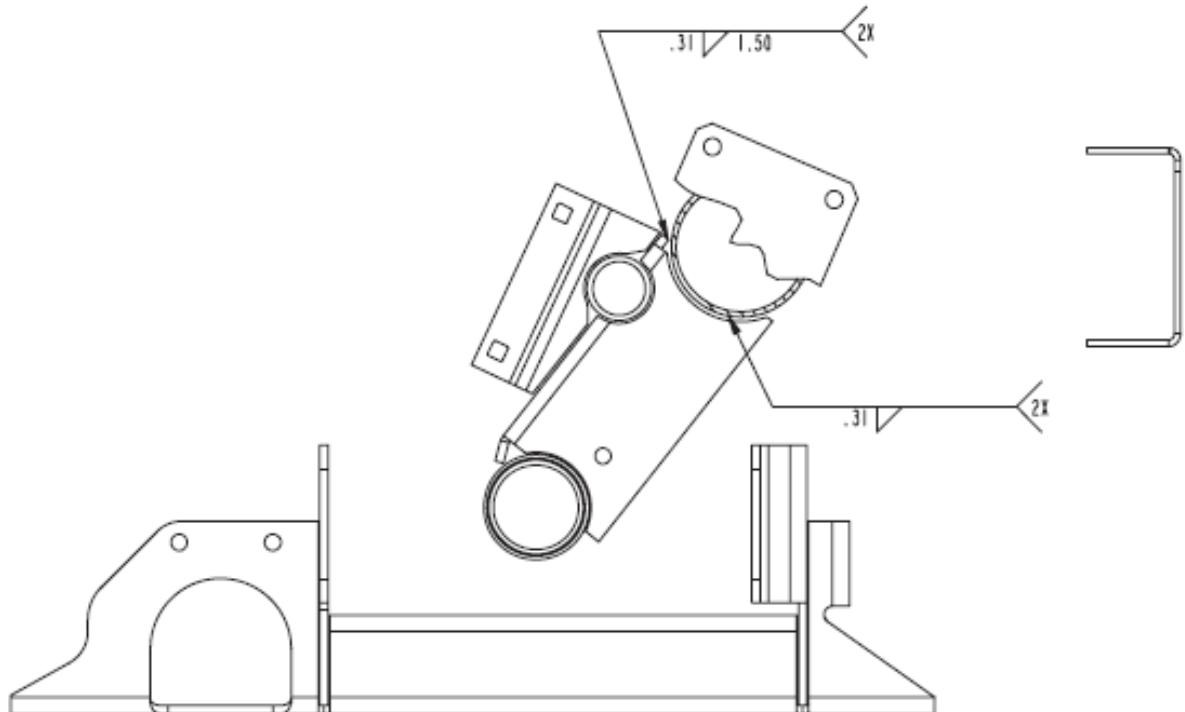

Figure 6
3. Weld the new drive shaft support to the support tube as shown in Figure 6.